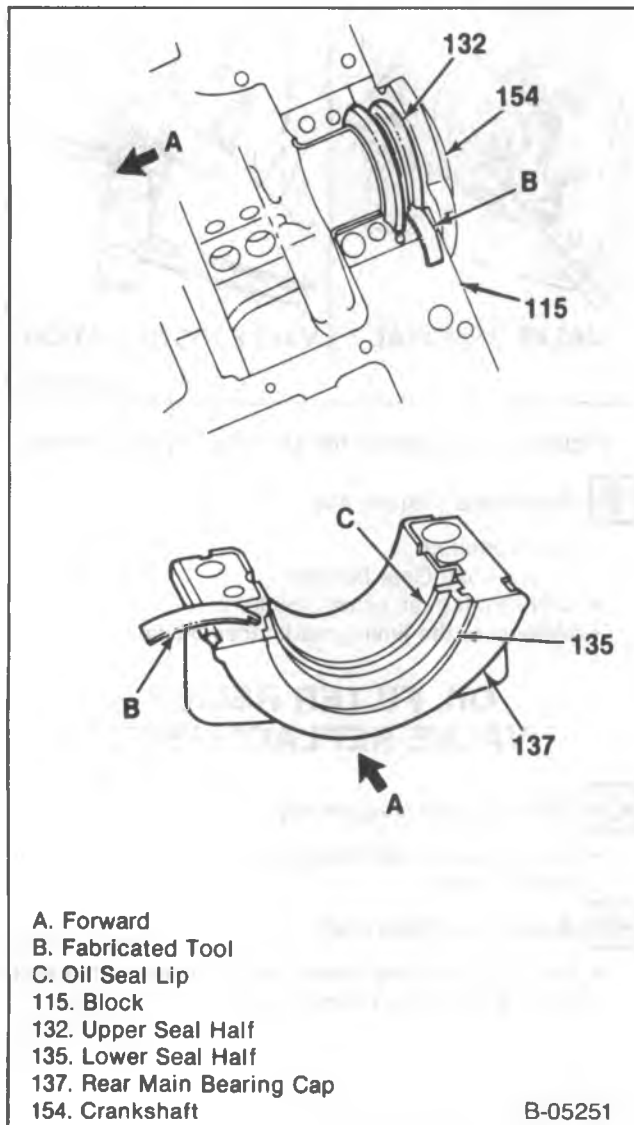

Figure 47—Crankshaft Rear Oil Seal Installation
1. Upper seal half (132).
- Position the tip of the tool between the crankshaft (154) and the seal seat in the block (115) (figure 47).
- Position the seal half between the crankshaft and tip of the tool. Make sure that the oil seal lip is positioned toward the front of the engine (figure 47).